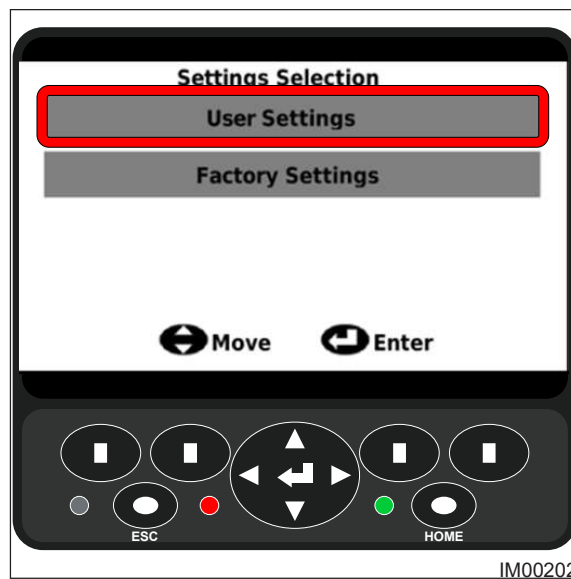

Fig: 8.9 - Settings Screen
6. On the settings screen, select User Settings (Fig: 8.9).